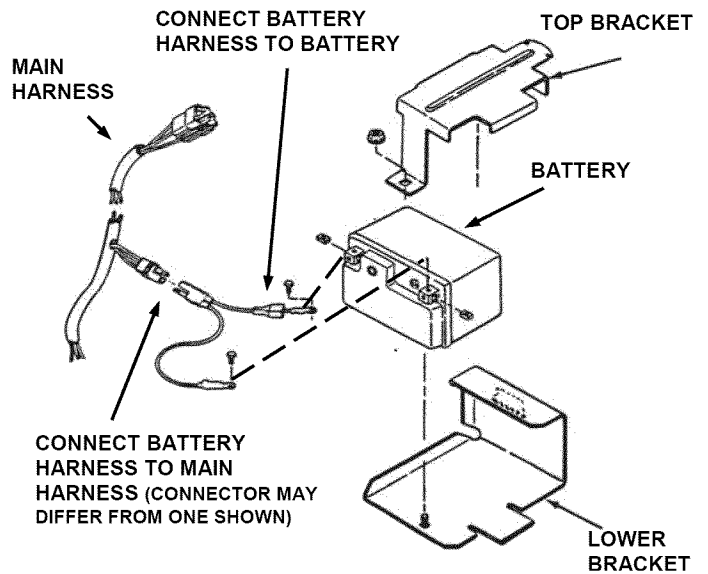

FIGURE 23
STEP 4: Loosen nut that secures top bracket to lower bracket, and remove top bracket. Install battery into lower bracket as shown in Figure 23. Reinstall top bracket and retighten nut securely.